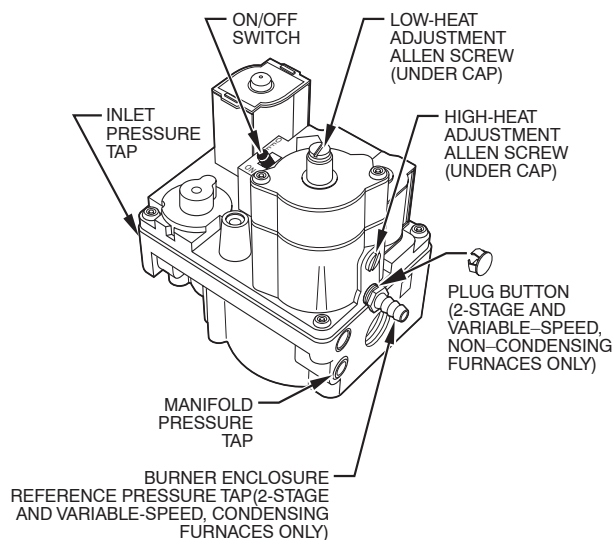

Fig. 27 - Series E Gas Valve
For 2-stage furnaces with a Series E gas valve (see Fig. 27), they DO NOT need to have the regulator springs replaced in the gas valve, but the regulators in the gas valve must be pre-adjusted for propane applications.
#### **For Fig. 27**
2. Remove caps that conceal adjustment screws for high- and low-heat stage gas-valve regulators. (See Fig. 27.)